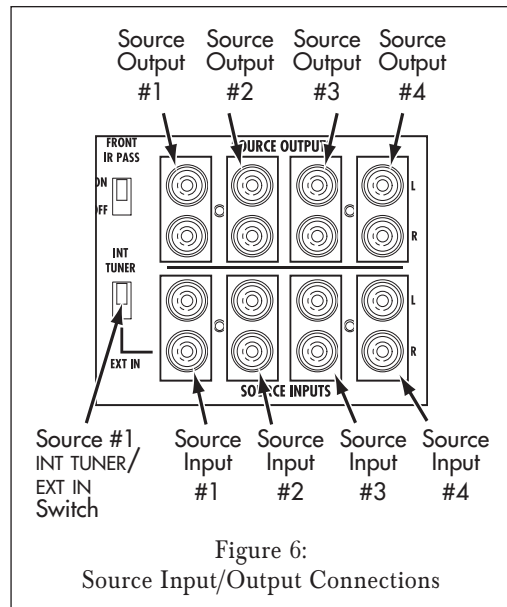

Figure 6:
The DAB1 has input and output connections for four source components. The corresponding SOURCE INPUT and SOURCE OUTPUT connectors are arranged vertically (see *Figure 6*). The SOURCE OUTPUT connections are buffered.
4. Insert the exposed portions of the speaker wires into the terminal openings. Make sure to insert the '+' and '-' leads into the correct openings, as shown in *Figure 6*.